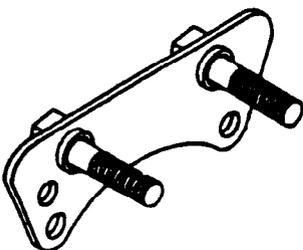

Figure 1
2. Insert two (2) No.72626 screws through one (1) No.17110 or No.17215 bracket and slide one (1) No. 30073 spacer onto each bolt. (Figure 1)